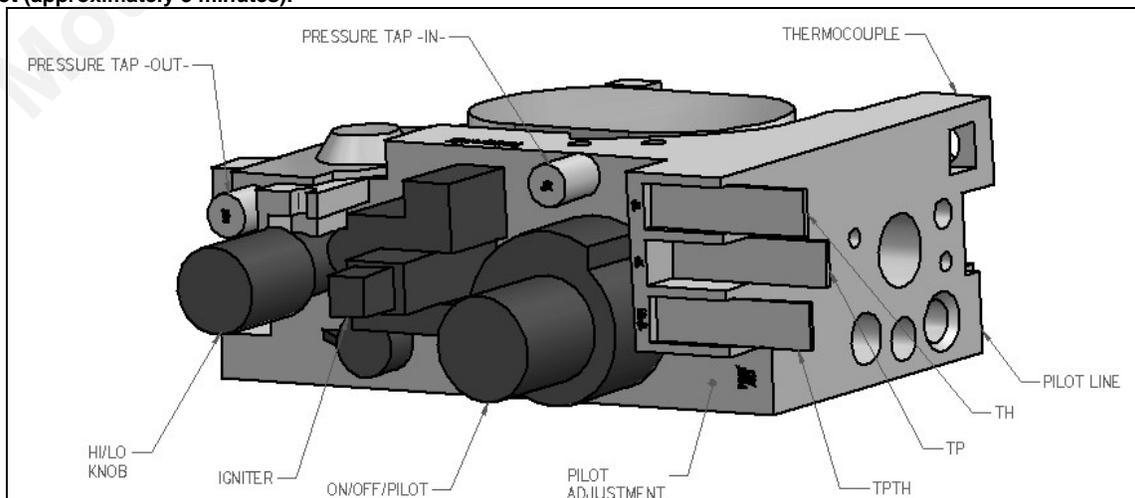

Figure 3
The valve supplied with the appliance has a HI/LO knob to control the heat output and flame height (Figures 3).
- Upon initial firing check manifold pressure at pressure tap located on the front of the control valve (Figure 3).